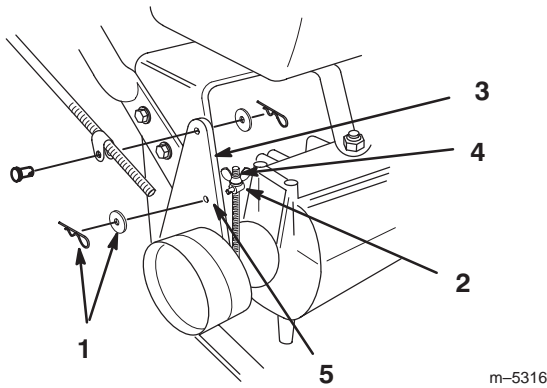

Figure 41
3. To adjust the brake remove the cotter pin and washer from the brake lever (Fig. 41).
4. Rotate the trunnion so it smoothly slides into brake lever hole **F** (Fig. 41). Tighten wing nut.
5. Secure trunnion to brake lever with washer and cotter pin (Fig. 41).